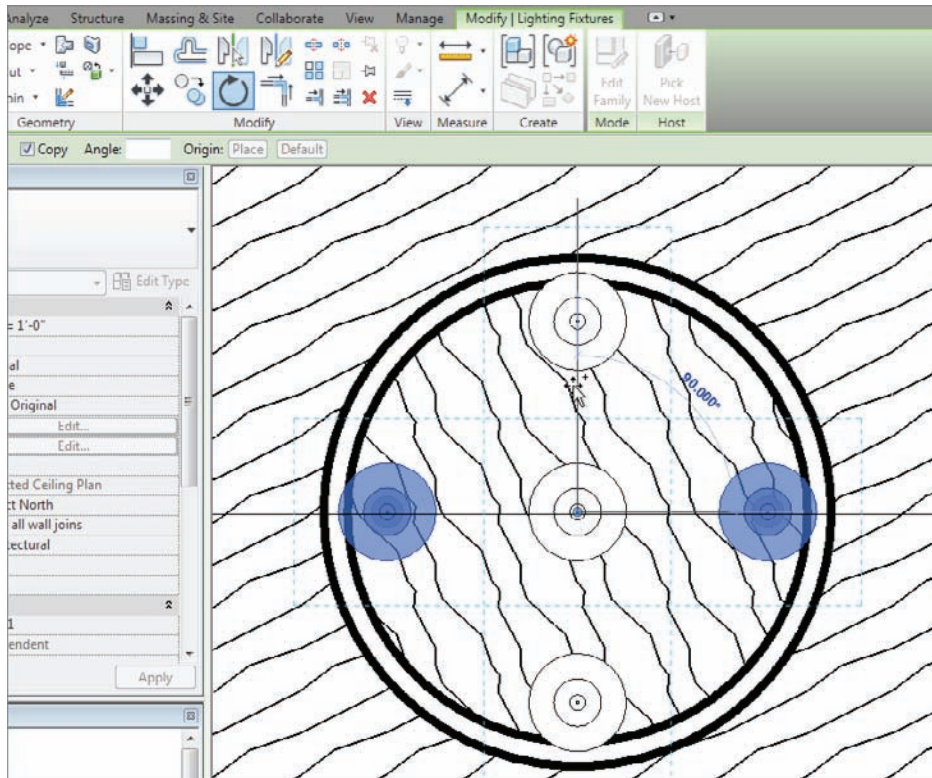

FIGURE 9.37 You are now copying and rotating as if you were in flat, 2D AutoCAD.
6. Rotate the fixtures 90 degrees to create a total of five fixtures, as shown in Figure 9.37.